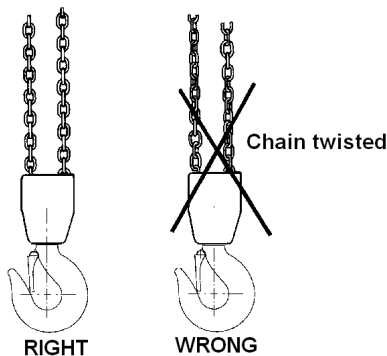

FIG. 3 The chain must not be twisted
- The load chain must not be kinked or twisted. With two-fall or multi-fall chain blocks there is a risk of the chain twisting if the bottom hook assembly ends up looped through the chain sling – usually during refitting or moving the chain block between work stations. See Fig 3.